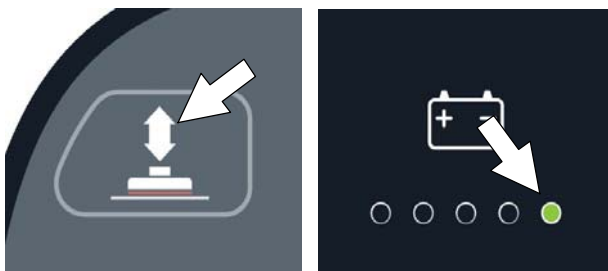
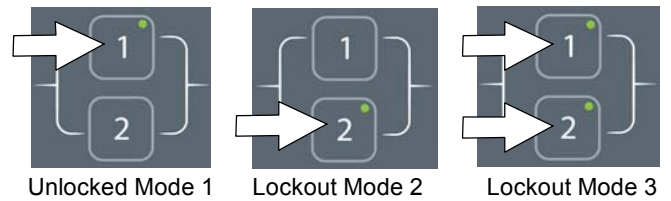

FIG. 147
FIG. 148
1. Park the machine on a level surface and turn the key to off (O) position.
2. Press and hold the brush pressure button while turning the key on. Release button when the far right battery discharge indicator LED turns on (Figure 147). After releasing button, the active supervisor control mode will display as described in step 3 (Figure 148),
3. To select or change a supervisor control mode, press and hold the specific zone control button until the LED blinks three times (Figure 148). For lockout mode 3, press and hold zone control buttons 1 and 2 at same time. After selection is made, the LED will turn solid to indicate new mode.